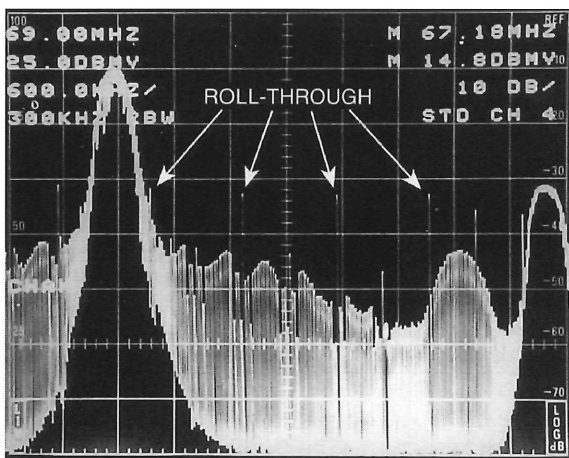

Figure 18. High-level sweep visible as vertical-interval roll-through.
3. The spectral components of the high-level VITS sweep signal should be visible as vertical-interval roll-through above the normal video signal, see Figure 18. Change to 5 dB/div by pressing the VERT SCALE [10/5/1] button.